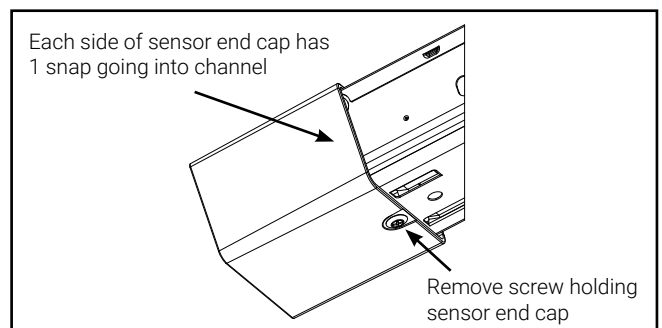

Figure 1.
2. If the fixture already has a sensor end cap installed, remove sensor endcap (Figure 1) prior to removing cover.